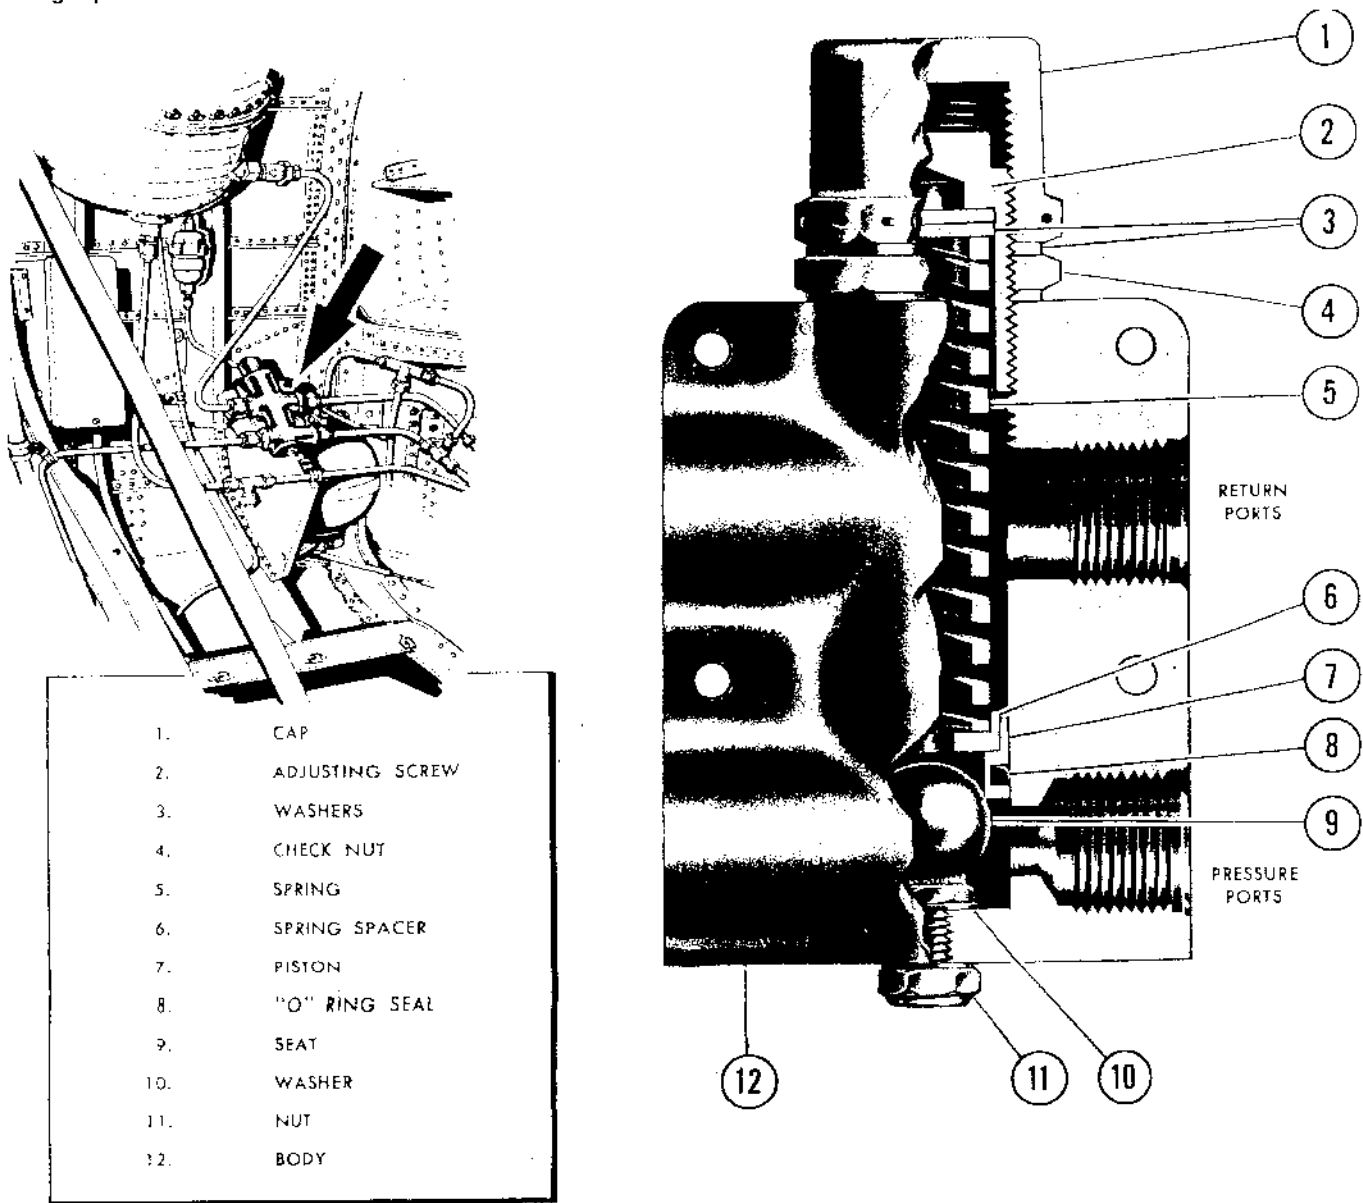

Figure 150 — Main Hydraulic System Relief Valve
(6) SYSTEM RELIEF VALVE. (See figure 150.)